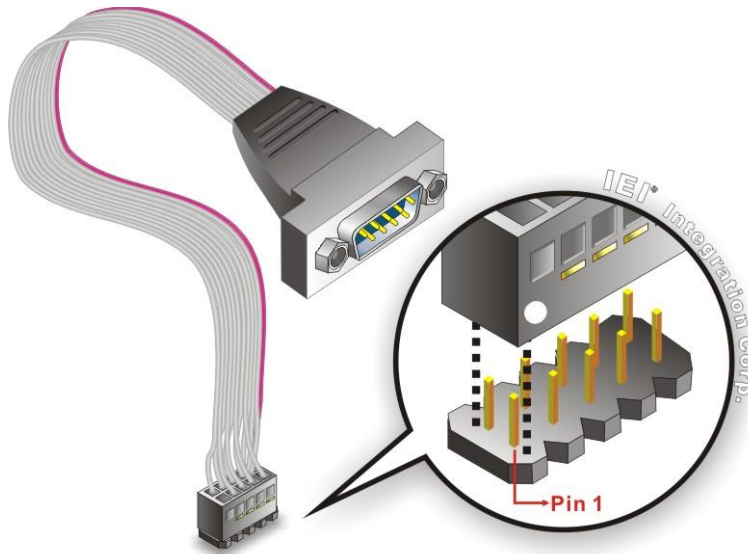

Figure 4-7: Single RS-232 Cable Installation
Step 2: Insert the cable connector. Align the cable connector with the onboard connector. Make sure pin 1 on the board and connector line up. Pin 1 on the cable connector is indicated with a white dot. See **Figure 4-7**.